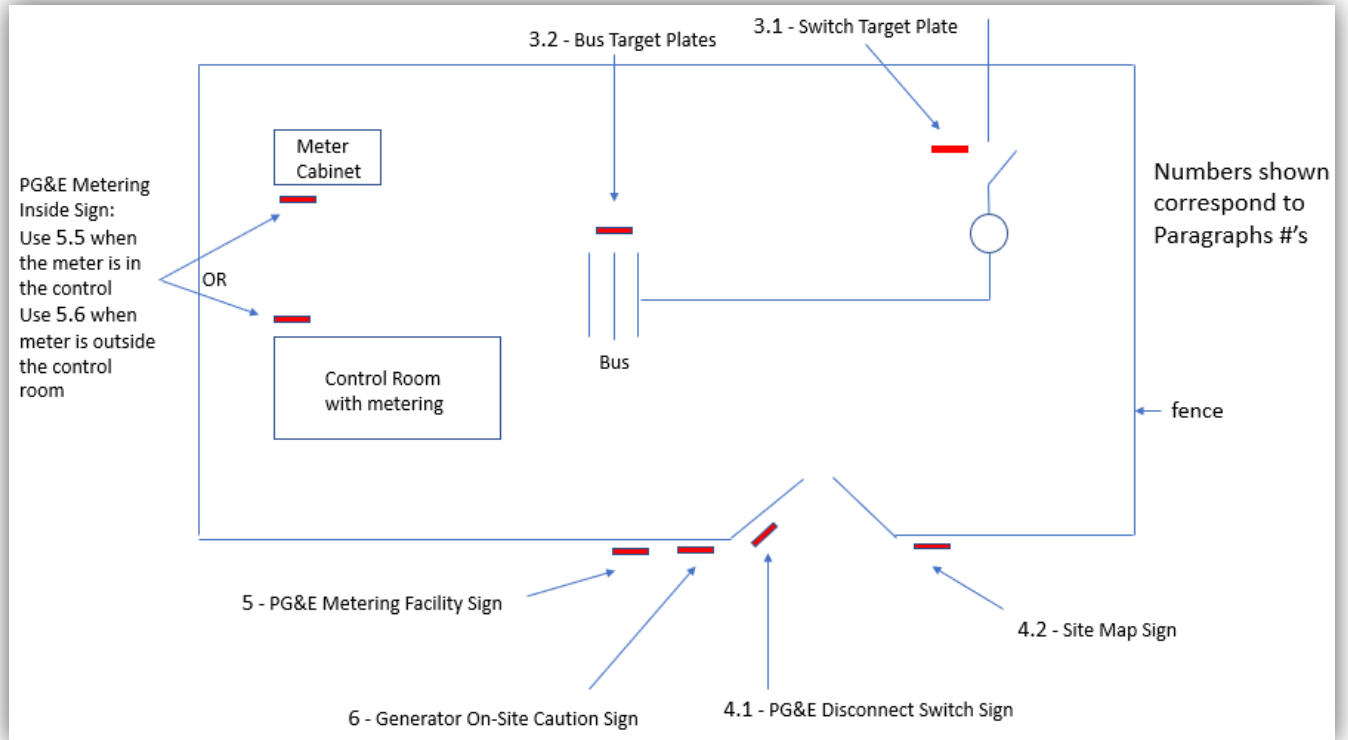

Figure 1. Overview of Required Signage
- 2.2 Figure 1, "Overview of Required Signage," on Page 3, shows the location of signs with respect to the fence, gate, and other key interconnection equipment.
1. Detailed information for each sign in Figure 1 is found in the sections and subsections correlating the numbers on the drawing.
For the example signs in Figure 1, information inside the brackets, "[...]" is site specific.